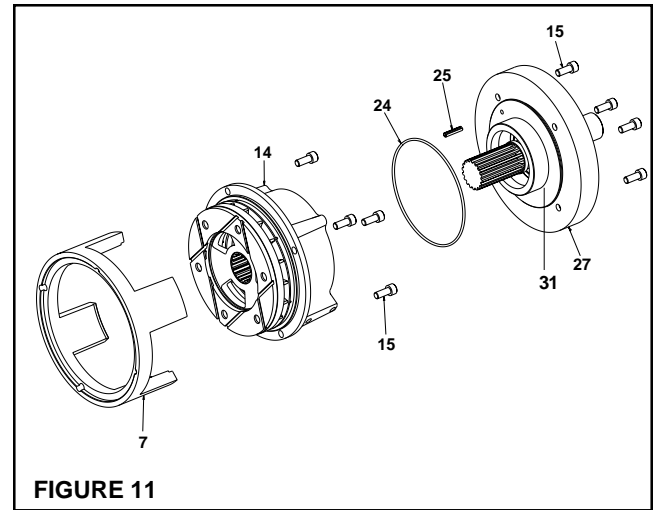

FIGURE 11
1. Remove the four Socket Head Cap Screws (Item 15) that secure the Air Chamber (Item 14) to the Housing (Item 7) (See Figure 11).
2. Remove the four Socket Head Cap Screws (Item 15) that secure the Male Pilot (Item 27) to the Air Chamber (Item 14) (See Figure 11).
3. Remove the Male Pilot (Item 27) and Stub Shaft (Item 31) from the Air Chamber (See Figure 11).
15. Coat the o-ring contact surfaces of the Air Chamber (Item 14), Piston (Item 17), Male Pilot (Item 27) and the new O-ring Seals (Items 16, 21, 23, and 24) with a thin film of o-ring lubricant and install the new O-ring Seals (See Figure 11 and 12).
19. Align the Spring Pin (Item 25) in the Male Pilot (Item 27) with the hole in the Piston (Item 17); then, slide the Male Pilot into the Piston (See Figure 11 and 12).
22. Apply a drop of Loctite® 242 to the threads of the Socket Head Cap Screws (Item 8) (See Figure 11).